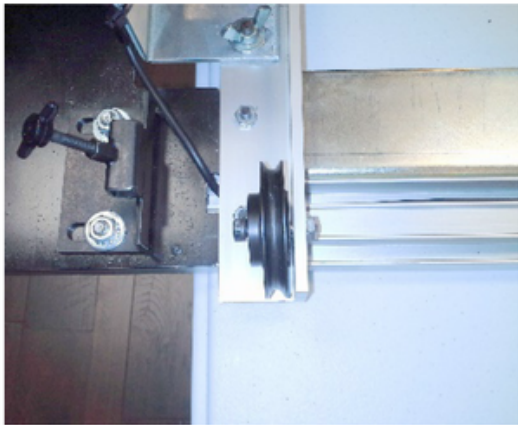

Fig. 5
- Discard old wheels and install new, oriented as shown in figure 5.